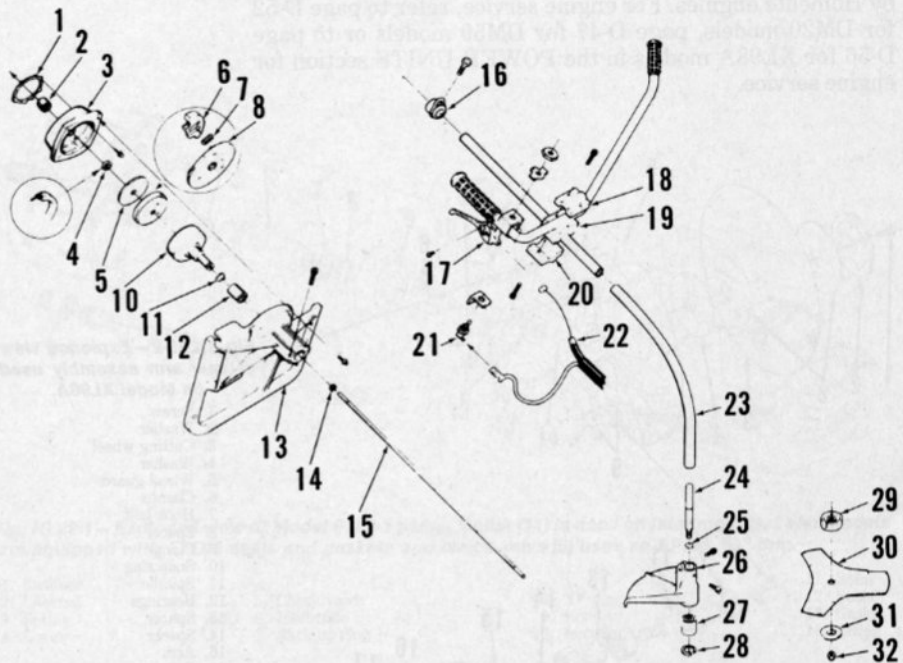

Fig. HL27-1—Exploded view of ST-400 brushcutter.
The flexible drive shaft should be removed, inspected and lubricated after every 25 hours of operation. To remove drive shaft, loosen clamp screw and remove screw in front side of lower head (26—Fig. HL27-1). Slide head off drive tube (23) and pull flexible shaft (15) from tube. Clean and inspect shaft, then lubricate shaft with a lithium grease. Insert shaft into drive tube (shaft ends are identical and shaft ends may be reversed to extend shaft life). With 3-5 inches of shaft extending from drive tube, engage shaft in lower head. Then while turning lower head so upper end of shaft engages clutch drum, install lower head on drive tube. Align holes in front side of lower head and drive tube and install screw. Tighten clamp screw so lower head will not turn.